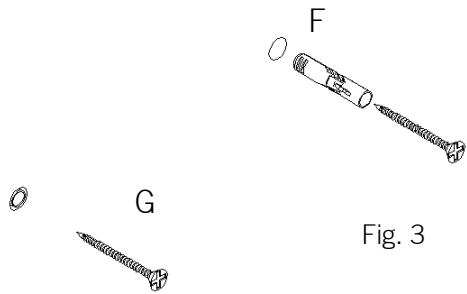

Fig. 3
5. Place template against wall ensuring it is level. Using a pencil, mark (2) locations on the wall with 14.8" distance between them. This is where the hardware will be inserted.
6. Drill at both of the marked locations. Insert anchors (F).
7. Insert screws (G) into the anchors and tighten with a screwdriver. Fig. 3